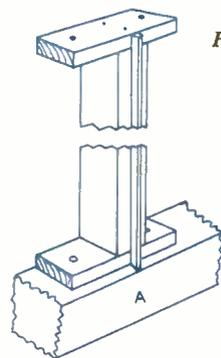

Fig. 5
The vertical sashbars of the front are most easily fixed by nailed T-pieces over each end and nailing this on to the (A) and (B) members. These T-pieces can be of wood or metal. 3/8in. thick wood is quite adequate. Fig. 5 shows the method.